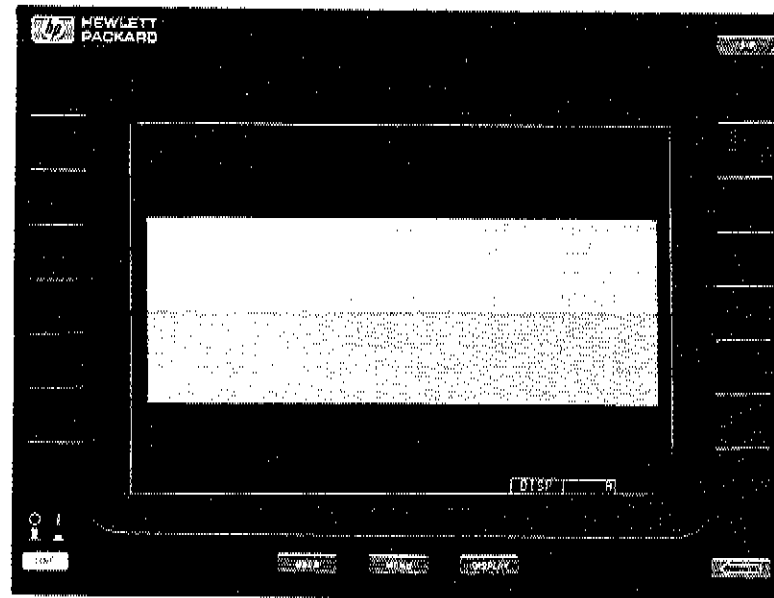

Figure 12. Test Pattern 2
- a. Obtain the Test Pattern 2 by following the procedure in step 4 (Accessing Adjustment Test Patterns) and pressing PATTERN 2 soft key (Test PATTERN 2 is shown in Figure 12).